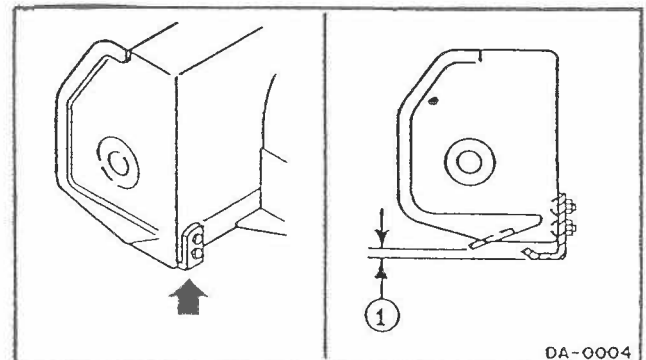

FIGURE 3
When working on level, paved surfaces, adjust the skid shoes to allow 1/16" to 1/8" clearance (fig.3, item 1) between cutting edge and surface. On uneven or gravel surfaces, keep the clearance (fig.3, item 1) at 1/2" to 1". To raise or lower the skid shoes, loosen the bolts.